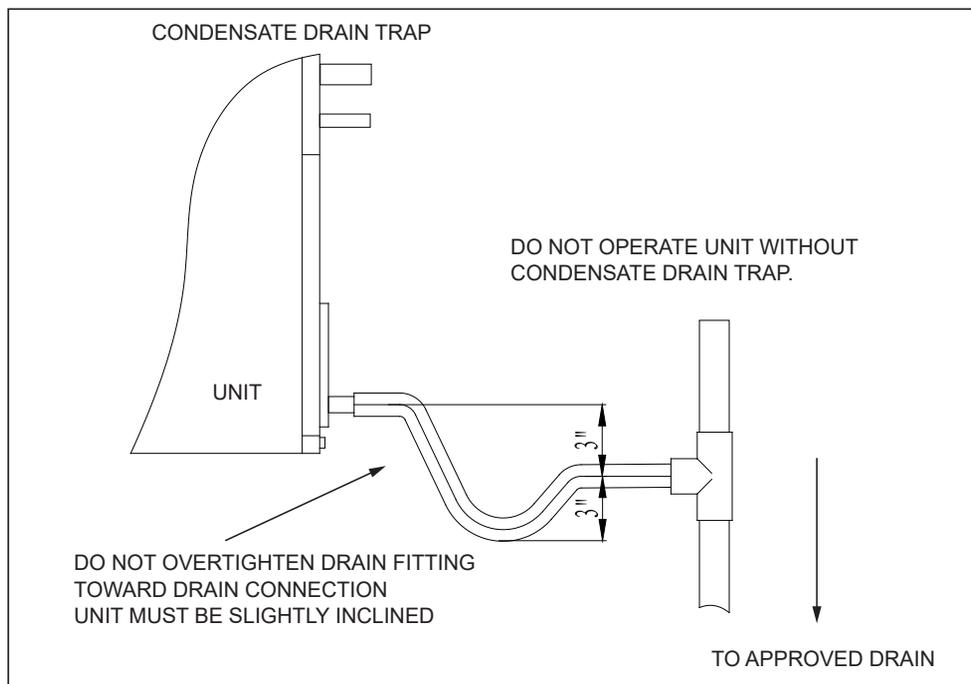

Fig. 3 CONDENSATE DRAIN TRAP
- Make sure unit is level or pitched slightly toward primary drain connection so that water will drain completely from the pan. (See Fig. 3)
- Make provisions for disconnecting and cleaning of the primary drain line should it become necessary. Install a 3 inch trap in the primary drain line as close to the unit as possible. Make sure that the top of the trap is below connection to the drain pan to allow complete drainage of pan (See Fig. 3).